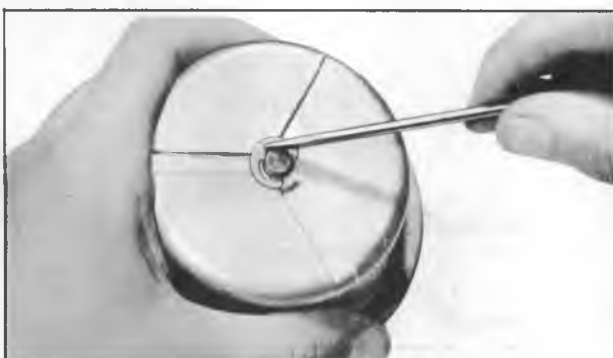

Figure 48—Removing Retainer from Rear Servo Pin
2. Remove E-ring retaining rear servo piston to band apply pin (fig. 48).